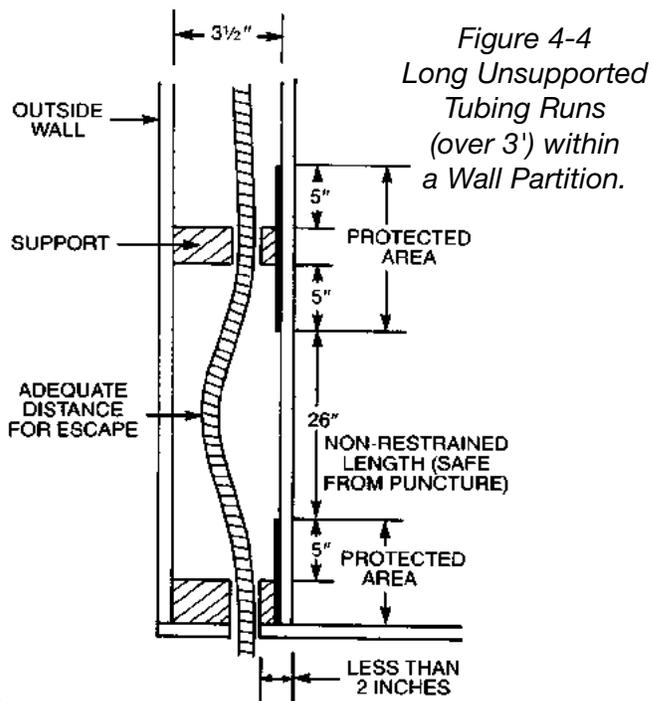

Figure 4-4
- At support points and points of penetration less than 2 inches away from any edge of a stud, joist, plate, etc. shielding is required at the area of support and within 5 inches of each side (if appropriate). Use a half striker or a full striker plate in these locations. (Figure 4-4)